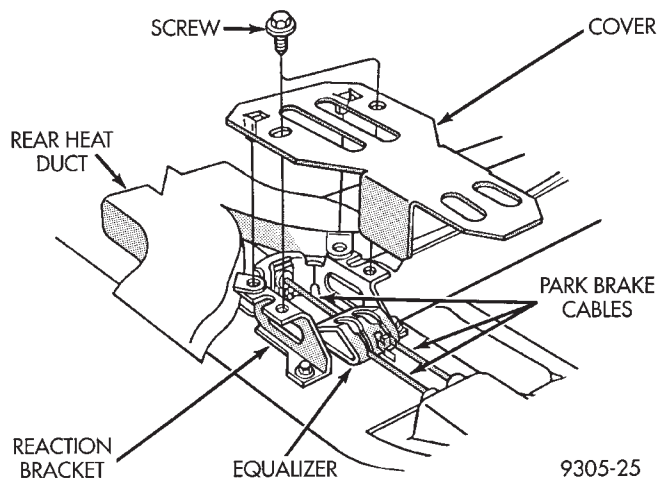

Fig. 13 Park Brake Equalizer And Cover
(5) Fold back carpeting to expose front park brake cable, reaction bracket cover and equalizer. **Note: The throttle pedal and bracket have to be removed from the dash panel to allow carpet to be folded back..** Remove equalizer cover from reaction bracket (Fig. 13).